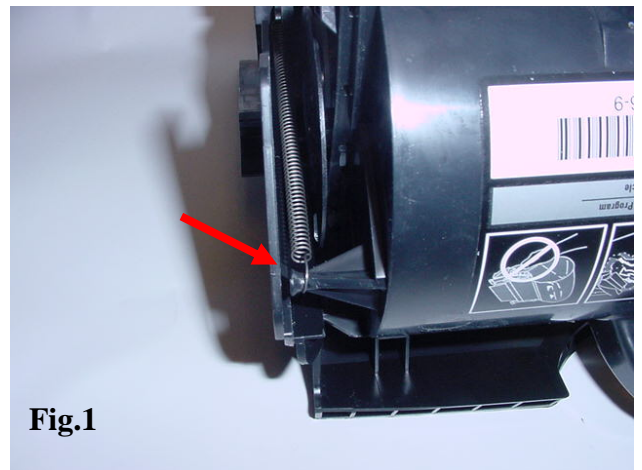

Fig.1
1. Place the cartridge, drum side up with the hopper facing you. Using a spring hook tool remove the tension springs from the posts on each side of the hopper (Fig.1).